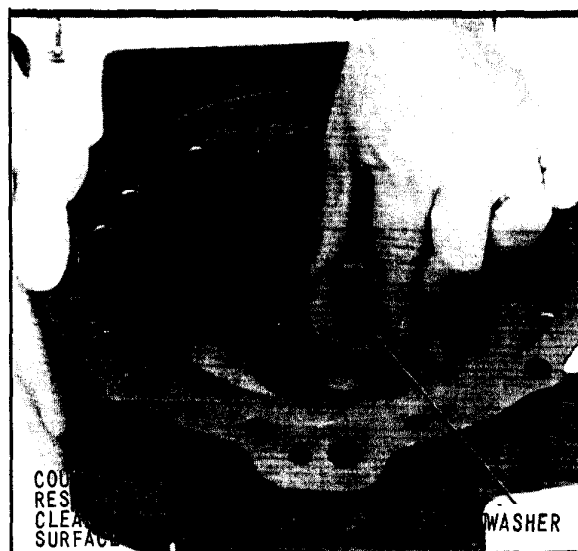

Fig. 52 Installing Thrust Washer
42. Place the parts assembled in steps 1 through 17 inclusive, on a smooth, clean surface in the upright position indicated in (Fig. 52). In this position, the rear face of rear coupling will provide sufficient base to enable assembly to proceed.
43. Coat the drive gear thrust washer with petroleum jelly and assemble into pinion cage and output shaft assembly, as shown in (Fig. 52). Center the washer carefully over bore provided for rear of drive gear.